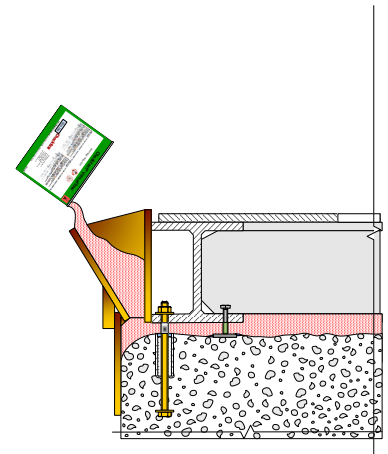

Figure 1
- 4.4.1.1.2. Head boxes or troughs are to be constructed as required to fit the needs of the application and to the degree necessary to place all the grout to its proper location within its prescribed working time. (Figure 1)